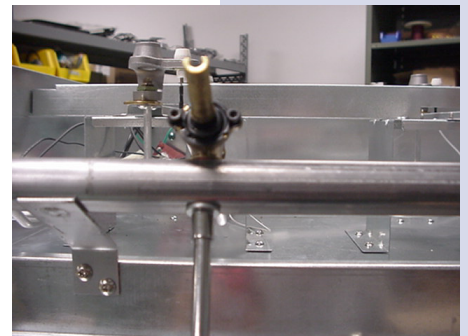

Figure 14
- 5. With a nutdriver, remove the screw that is fixing the valve to the manifold. (Figure 14)